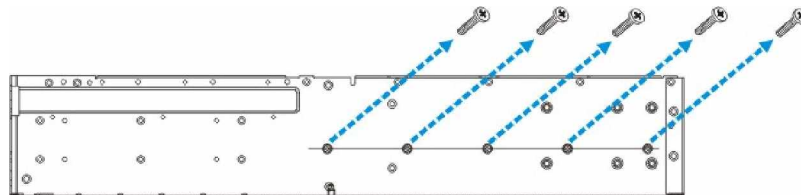

Figure 2-2: Enclosure Side Mounting Holes (2)
- **Figure 2-2** shows holes that are designed for slide rail options. There are five (5) mounting holes for #6-32 screws on the sides of the enclosure for use with slide rails purchased separately from Raid Inc or other vendors.